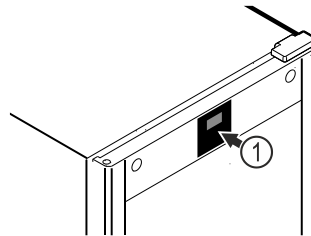

Fig. 52 Example illustration
The thermometer is calibrated at the factory (offset of +6 Kelvin). If the interior temperature differs from the temperature display Fig. 52 (1), you can calibrate the thermometer.